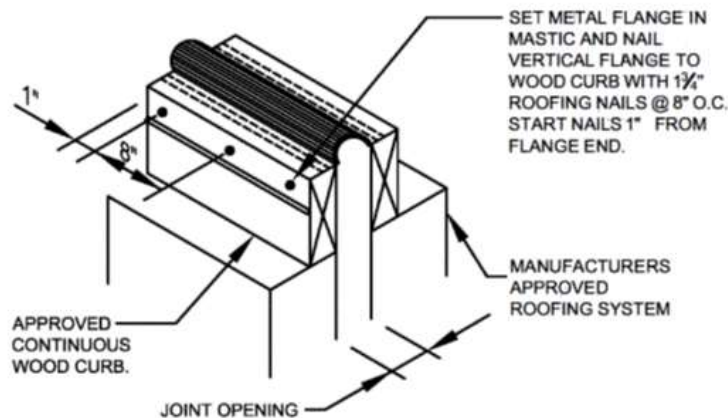

Figure 2
2. Set flange in membrane compatible mastic and nail to vertical surface of roof curb w/ (1) 1 3/4" roof nail at 8" o.c. start nails 1" from flange end. **See Figure 2**